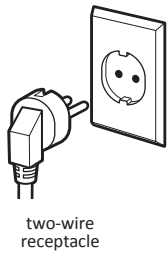

Figure 1
- This dryer is equipped with a power supply cord. To minimize possible shock hazard, the cord must be plugged into a mating wall receptacle. See Figures 1 & 2.